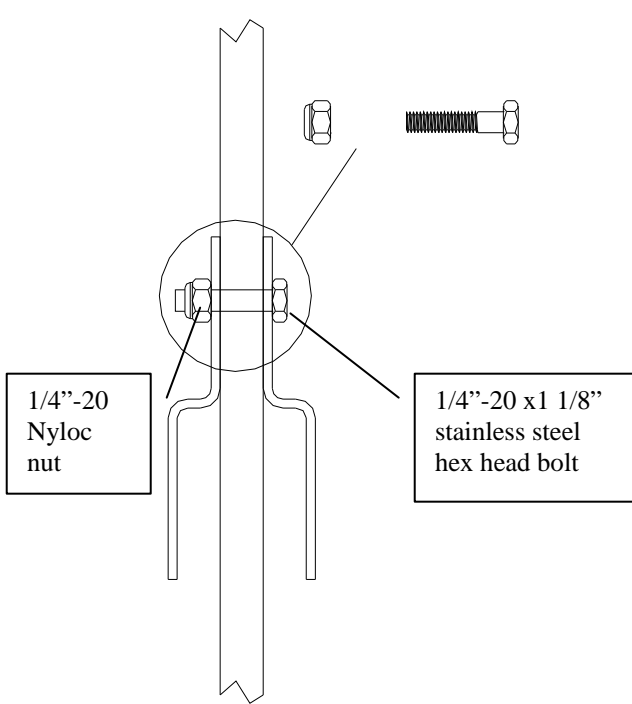
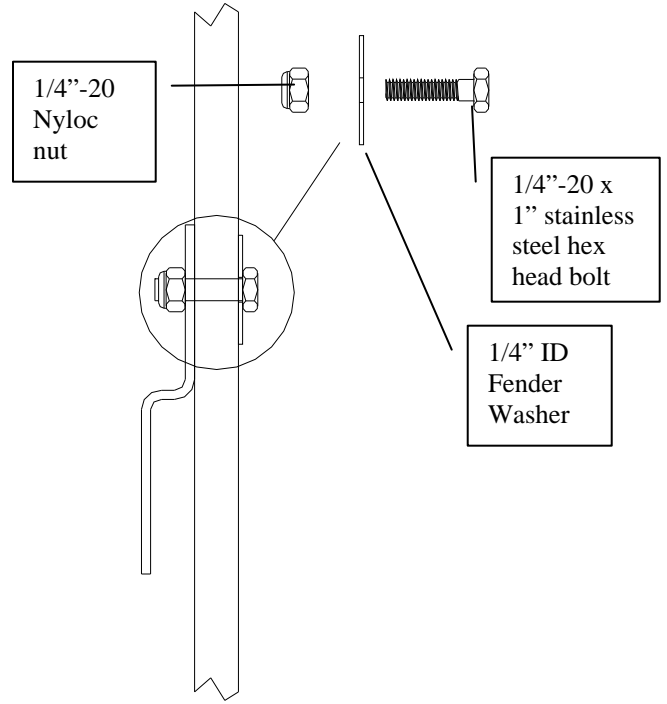

Figure 3.
Figure 4.
5. Attach the brackets to the Division Panels using 1/4"-20 x 1 1/8" bolts, 1/4"-20 Nyloc nuts, and (for end runs) 1/4" ID Fender washers, (supplied) through the mounting holes in the support brackets. When attaching a bracket to both sides of a division panel, see Figure 3. For end division panels where only one bracket is being applied, see Figure 4.